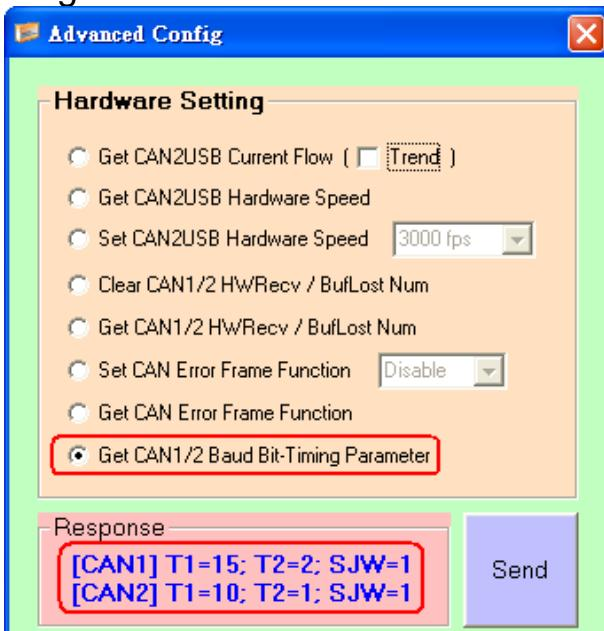

Figure 7-14-2 "T1, T2 and SJW"
- (2) Show the Bit-Timing parameters including T1, T2 and SJW values used in I-7565-H1/H2 module like Figure 7-14-2.